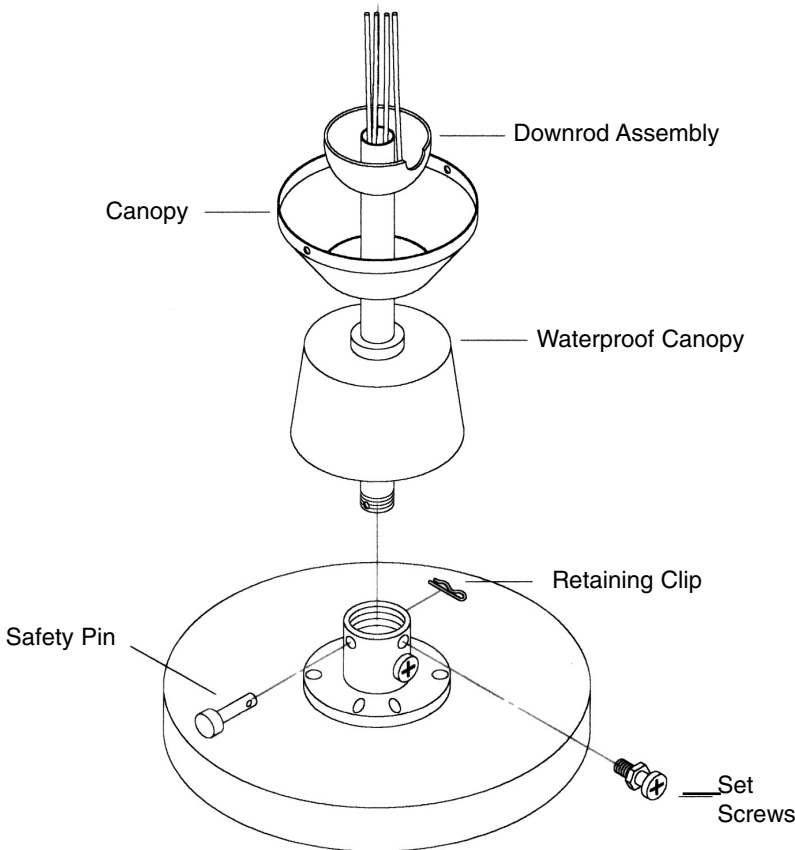

Fig. 5
- ❖ Loosen the set screws (2) in the support rod coupler located on the top center of the motor housing (*see figure 5*) until the inside channel is clear.
- ❖ Tighten the set screws (2) that you loosened on the support rod coupler (in step 1) until tight.